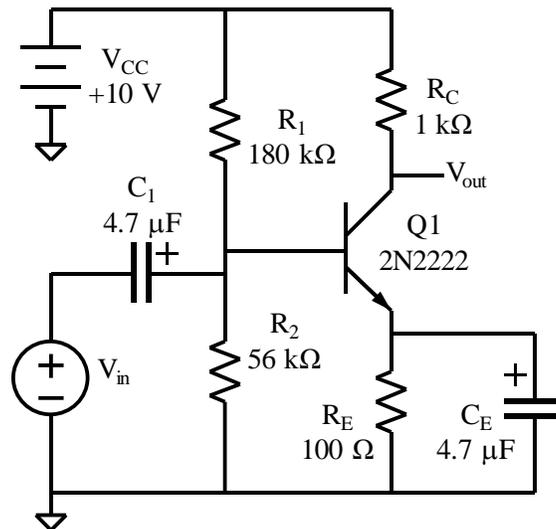

Fig. 3. Common-emitter amplifier with bypassed emitter resistor.
4. Consider the circuit in Fig. 3.
4. The measured phase shift between  $V_{out}$  and  $V_{in}$  for the CE amplifier with bypassed  $R_E$  (Fig. 3) is not the expected  $180^\circ$ . This is because the capacitor's impedance at 5 kHz *does not* approximate a short circuit well enough. By accounting for the capacitor's actual impedance in the theoretical gain calculation, the result will show a gain magnitude and phase shift closer to the measured values.
CE, bypassed $R_E$ , Fig. 3
In the Fig. 3 circuit, a capacitor is added in parallel with  $R_E$ . If the capacitor is assumed to be a short circuit, then the resistor  $R_E$  is shorted out and Eq. 1 becomes